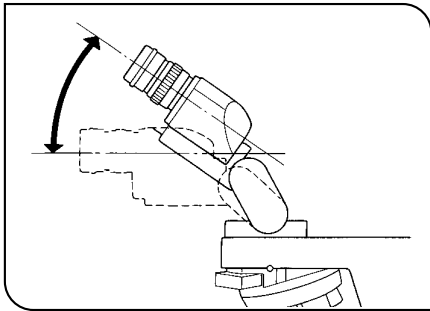

Fig. 27
**6 Adjusting the Tilt (with the U-TBI3) (Fig. 27)**